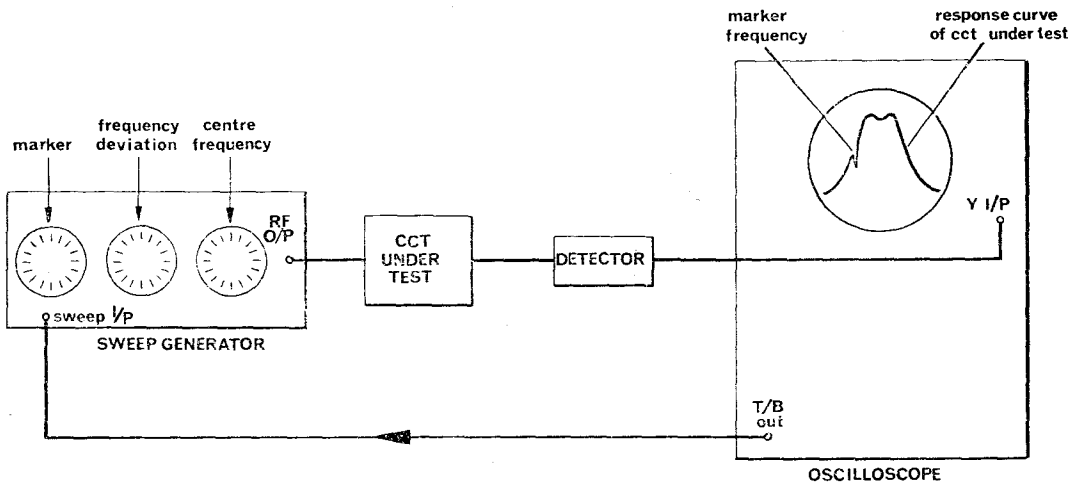
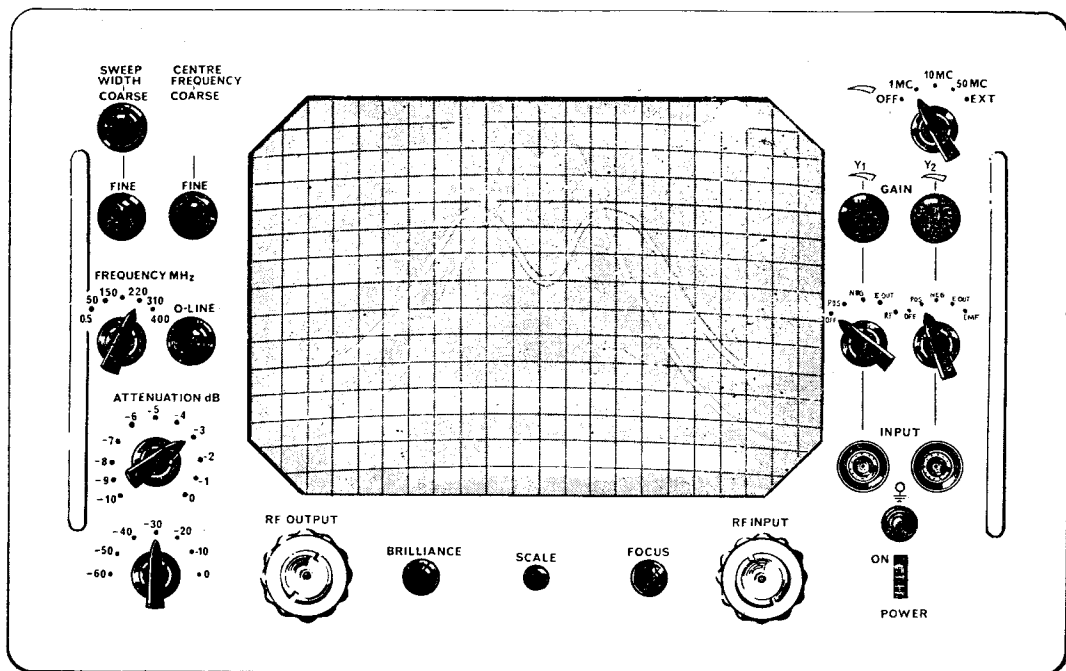

Fig. 13. Wobbulator
Fig. 14. Polyskop wobbulator
30. **Tuned circuit alignment.** The basic "wobbulator" set up is shown in figure 13. To align the tuned circuit the centre frequency of the sweep generator is adjusted to the response frequency of the circuit under test. The frequency deviation is adjusted to a convenient figure slightly greater than the expected bandwidth of the circuit under test. The marker frequency is adjusted to the centre of the tuned circuit theoretical response and should then appear at the centre of the displayed curve on the oscilloscope. If it does not, the circuit under test is retuned until the pip lies at the centre. The pip can now be moved to the 6dB points, the base of the curve, or to the "humps" as required by tuning the marker oscillator. The circuit response is thus evaluated and the coupling can be adjusted until the required response curve is obtained on the display.
31. Polyskop wobbulator (210S/10060). This instrument (figure 14) provides a self contained test set-up similar to that shown in figure 13. The sweep signal generator is adjustable to centre on any frequency between 500kHz and 400MHz and the frequency deviation to any figure from $\pm 200\text{kHz}$ – $\pm 50\text{MHz}$. Crystal controlled spot frequency markers are also generated in the oscillator section of the instrument and provision allowed for the use of external markers. The display side provides a twin-beam oscilloscope display whose timebase is used to drive the oscillator sweep. Connection from the circuit under test to the display may be either by coaxial cable or through a low capacitance diode detector probe. Using the twin display allows the response characteristics of two adjacent tuned circuits to be displayed superimposed on one another to facilitate the overall alignment of interacting circuits.